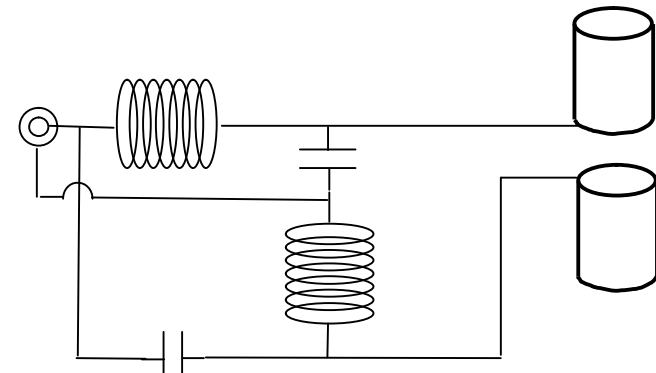

FIGURE 2 – L+L NETWORK
The Phase Delay Network: During the development phase of the EH Antenna three different network configurations were designed to create the proper -90 degree phase shift between the two cylinders. The networks are depicted in Figure 2 thru 4 below.
A. L+L Network: The first configuration was known as the L+L network and is shown in Figure 2. One L network provided a -45 degree phase shift and one provided + 45 degree phase shift. The L/C ratio is chosen to provide an impedance match to the coax. This arrangement works very well. However, even though the value of the two capacitors is very low, the capacitors must be able to withstand very high RF voltage.